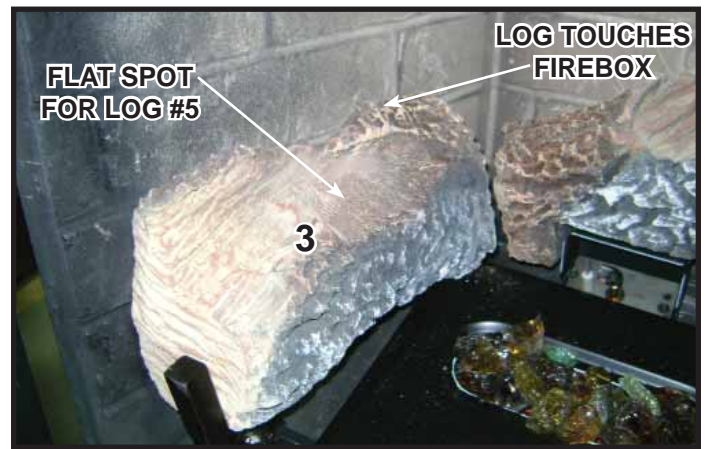

Figure 7. Place Log #3
**Log #3 (SRV2221-702):** Position Log #3 as shown in Figure 7. See Figure 2 and Figure 8 for additional reference points. Mate the base of the left grate tine with the groove located on the bottom of the log. Pull the log forward until it stops against the vertical portion of the grate tine. Swing the rear of the log counterclockwise until it touches the firebox.